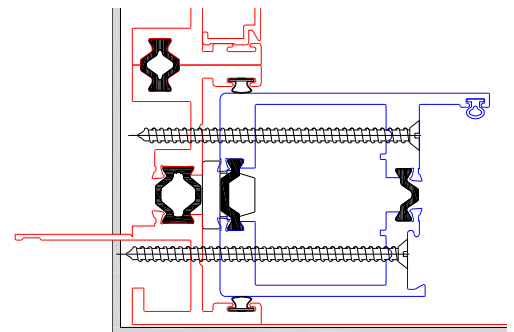

Figure 17:
4. Attach screws through the lead stile into the jamb (Figure 17).